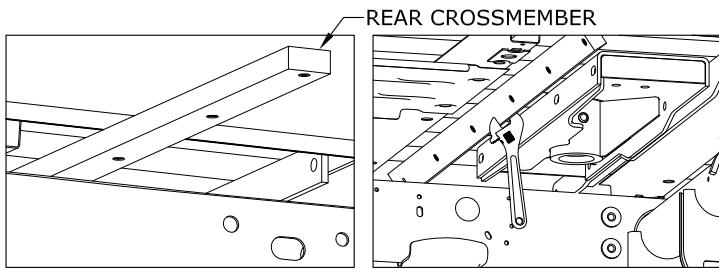

FIGURE B7: Rear Cross Member FIGURE B8: Rear Cross Member
3. Place the rear cross member (1" X 2" bar). Slide the cross member between the bed and the frame just rearward of the center section until it spans both frame rails, see figure B7. The holes in the crossmember are closer to one edge than the other. Rotate the cross member $\frac{1}{4}$ turn so that the holes are closest to the bottom of the cross member. The narrow space between the bed and the frame will make it difficult to rotate the cross member. Rotation of the cross member can be made easier by using an adjustable wrench for leverage, see figure B8.